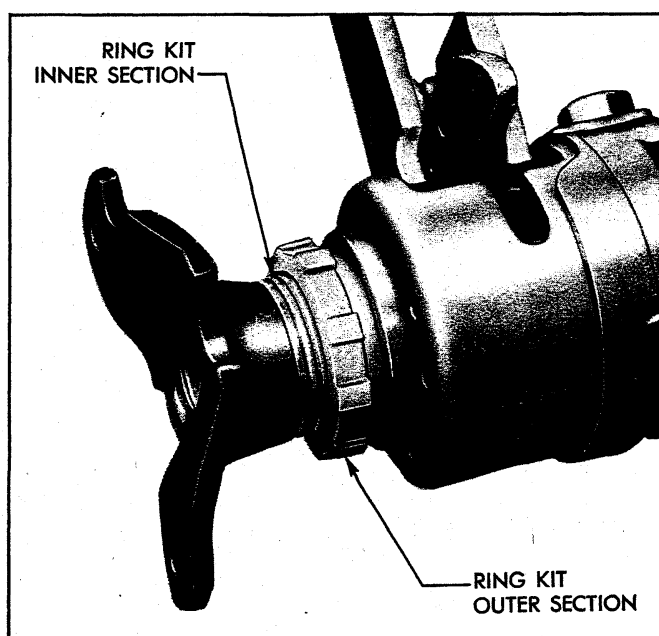

Fig. 53—Tolerance Ring Kit—Final Adjustment
13. Remove any remaining looseness from internal column stack-up by unscrewing inner tolerance ring kit section; then screw inner kit section back in 1/8 to 1/4 turn. See Figure 53.